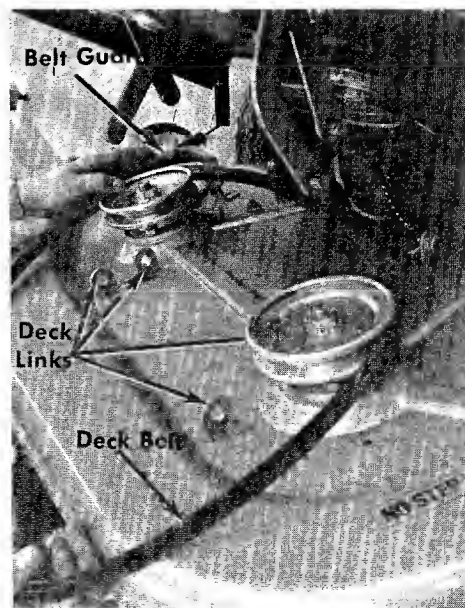

FIGURE 27. DECK LINKS
- Step 6. Remove the front four deck links from the cutting deck. See figure 27.
- Step 7. Remove the belt guards from both deck pulleys. See figure 27.
Step 6. Remove the front four deck links from the cutting deck. See figure 27.
Step 7. Tip the deck down as shown in figure 27.
Step 9. **Removing the transmission belt.** See figure 27.
b. Remove the transmission pulley by removing the hex nut and washer. See figure 27.